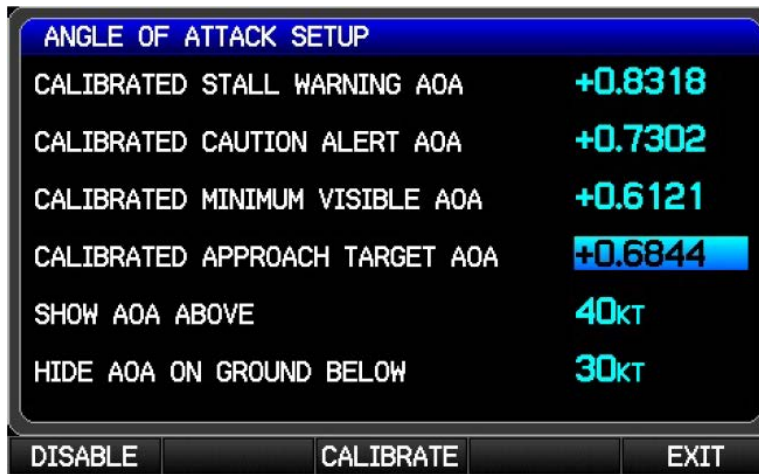

Figure H-25 Angle of Attack Setup Page
- The stall warning AOA calibration value (resultant from the calibration procedure) must be greater than the minimum visible AOA calibration value (see Figure H-25).
- The caution alert AOA calibration value (resultant from the calibration procedure) must be greater than the minimum visible AOA calibration value and less than the stall warning AOA calibration value (see Figure H-25).